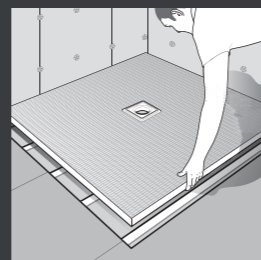

fig 7
**6** Using a 10mm notched trowel apply the flexible, cement-based tile adhesive to the floor then fix the shower tray in place using a tamping motion to ensure no voids remain underneath. **See fig 7.**